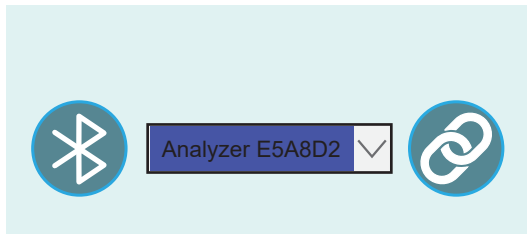

Figure 29. Drop Down Menu
2. Tap the correct analyzer from the drop-down menu and tap the connect button. See Figure 29.